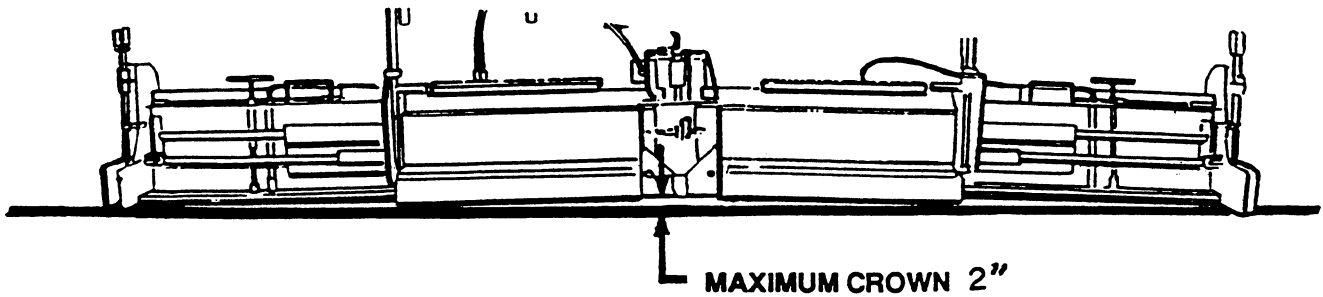

FIGURE 5
10. To get exact crown or valley, measure the distance between a flat level surface to the center bottom portion of screed. See figure 5. Make adjustments with crown and valley control.